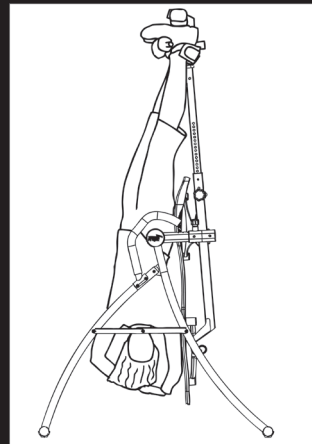

Fig. 14
- From a balanced position on the table, slowly raise both hands over your head to begin rotation. You may need to assist the last few degrees of rotation by pushing on the floor or A-frame until the table pulls away from your back (Figure 14). In your correct balance setting, your weight will keep the table “locked” in this position until you are ready to return upright.